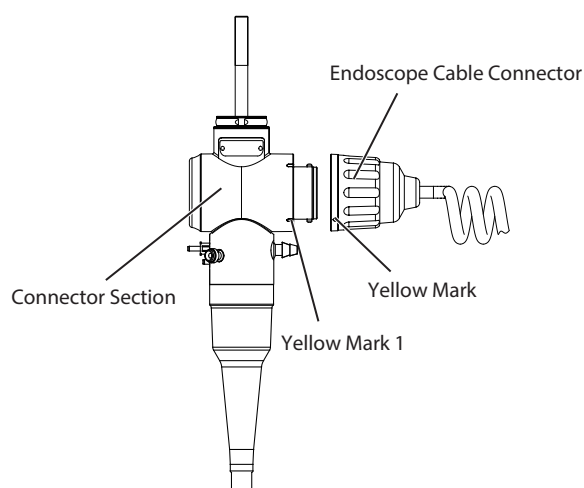

Figure 3-24 Endoscope Cable Connection 1
1. As shown in Figure 3-24, align the yellow mark on the endoscope cable connector with the yellow mark 1 on the electrical connector of the endoscope, and insert the endoscope cable connector into the electrical connector of the endoscope.